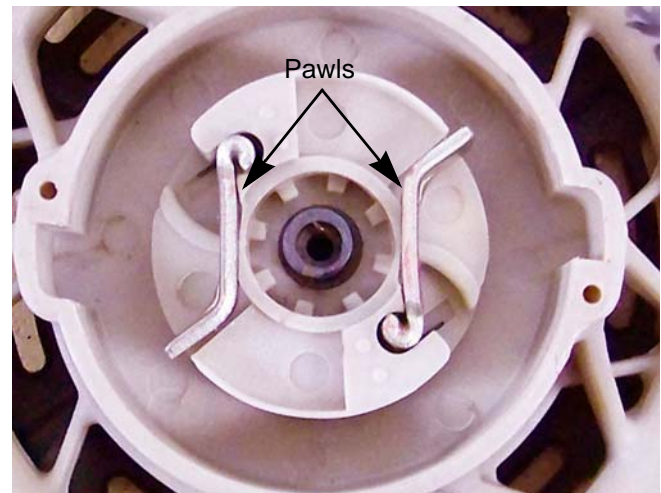

Figure 6.10
8. Install the torsion springs and pawls so that the long arm of the spring reaches outside of the pawl, and draws it toward the center of the assembly. See Figure 6.10.